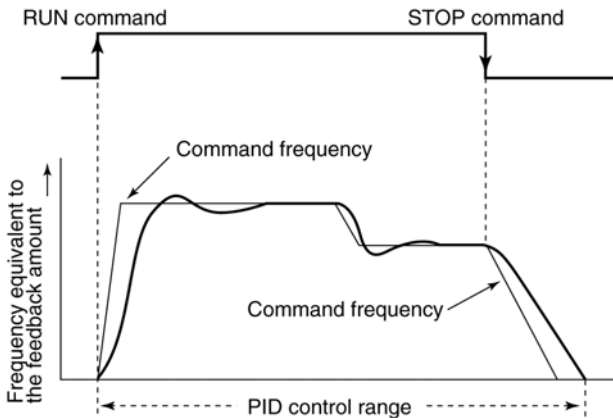

Figure 7.4
- An actual PID control example is shown in Figure 7.4. When the Inverter ON command is entered and acceleration starts, the inverter starts PID control. The command frequency is accelerated to the set frequency gradually in the currently applicable acceleration time. The PID operation uses the deviation between the command frequency and the feedback frequency to change the output frequency so as to make the feedback value follow the command value. This PID control is performed also in the constant power operation and during deceleration.